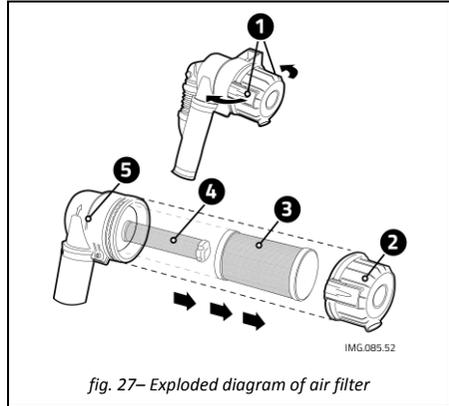

fig. 27- Exploded diagram of air filter
- Release the two tabs "1" (see fig. 27) on the right and left of the filter "B"